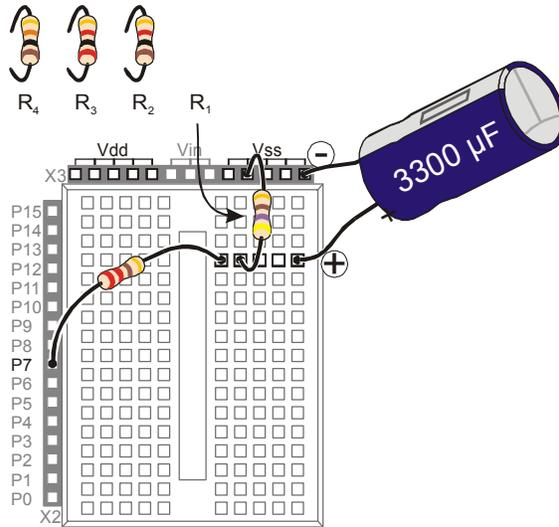

Figure 5-9
Figure 5-8 shows the circuit schematic and Figure 5-9 shows the wiring diagram for this activity. You will be taking time measurements using different resistor values in place of the resistor labeled R_i .
Your 3300 μF capacitor will work fine in this experiment so long as you make sure that the positive (+) and negative (-) terminals are connected EXACTLY as shown in Figure 5-8 and Figure 5-9.
- √ Remove the 470 Ω resistor labeled R_i in Figure 5-8 and Figure 5-9 on page 141, and replace it with the 1 kΩ resistor.